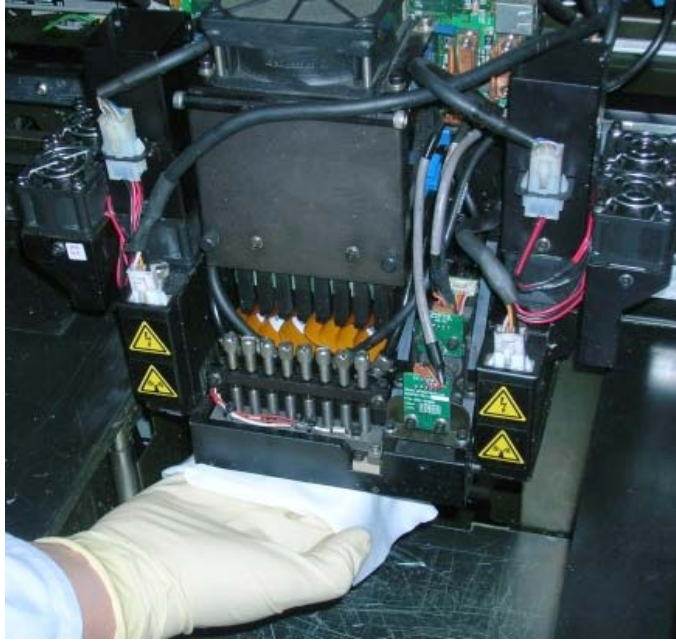

Figure 6-25: Cleaning the heads
9. Clean the orifice plates, with a back-and-forth motion (see figure 6-25). Use the mirror to make sure that you have removed all of the residue material.